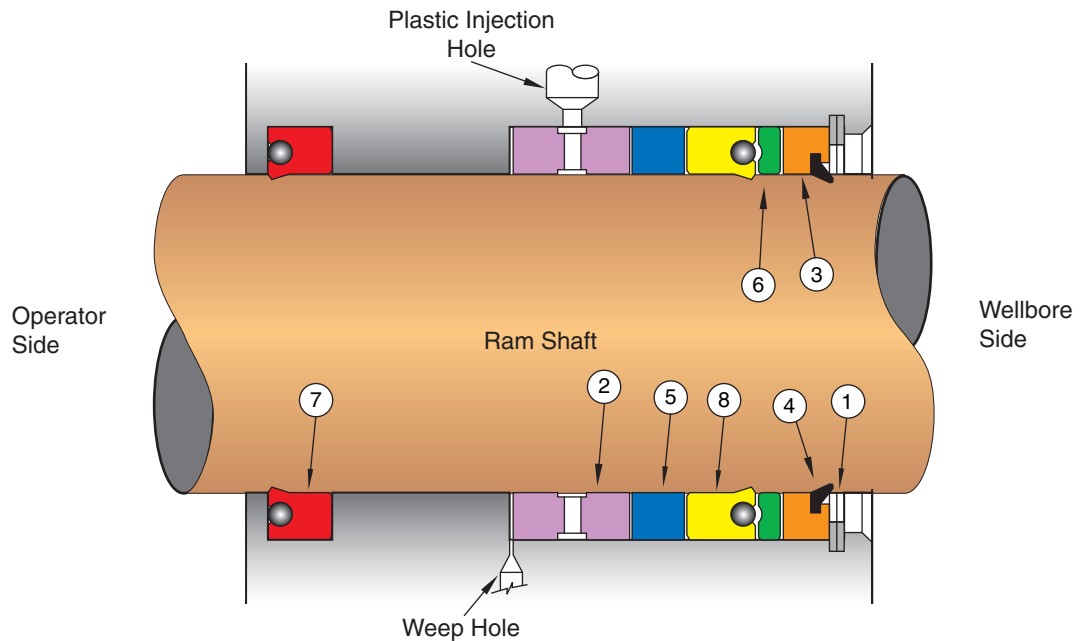

Figure 5-74. Ram Shaft Seal Assembly – UltraLock
(All items in parenthesis refer to Figure 5-74 and the associated parts lists.)
The RSSA also includes one hydraulic opening pressure polypak seal (see Figure 5-74).
2. Lubricate the RSSA and the door cavity with SAE 30W oil, and install the new RSSA complete with a new spiral retainer ring as shown on Figure 5-74.